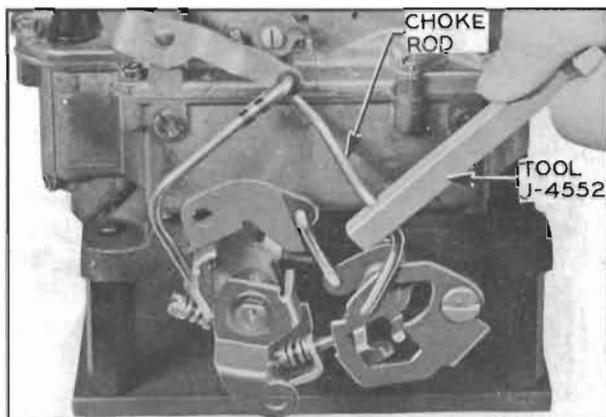

Figure 3-83—Adjusting Fast Idle Cam
3. If choke valve clearance is not correct, bend choke rod as required to obtain this clearance using Tool J-4552. See figure 3-83.